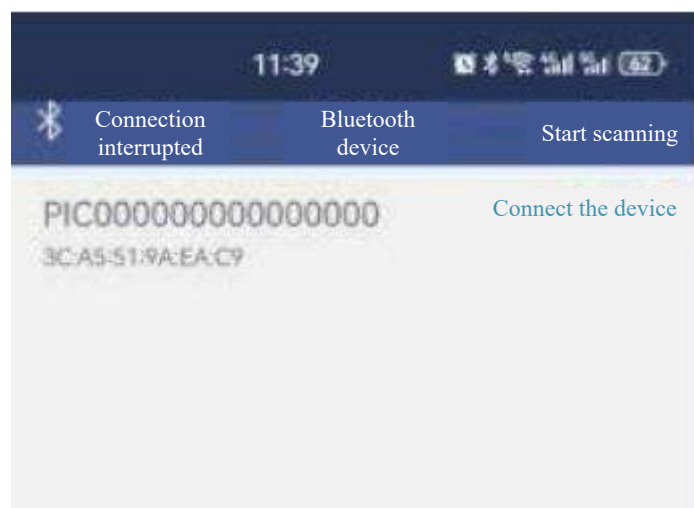

Figure 2.7
③ After finding the device through scanning, choose the device to be connected and click [Connect the Device] button and the mobile end will communicate with the device in real time, as shown in Figure 2.7